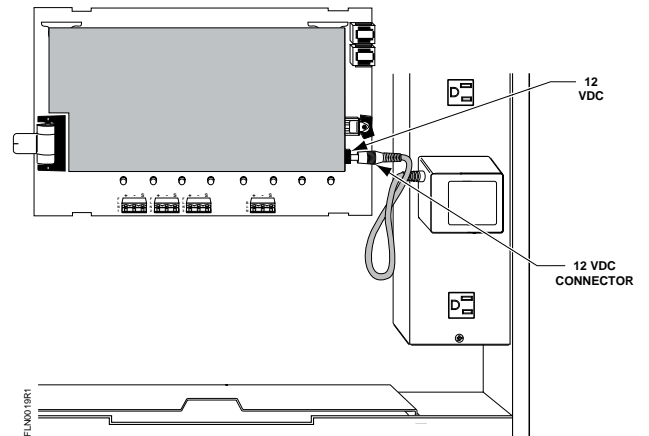

Figure 8. 115 Vac Power Supply Plugged into Power Receptacle.
2. Plug the power pack into the power receptacle of the Easylink Enclosure (Figure 8).